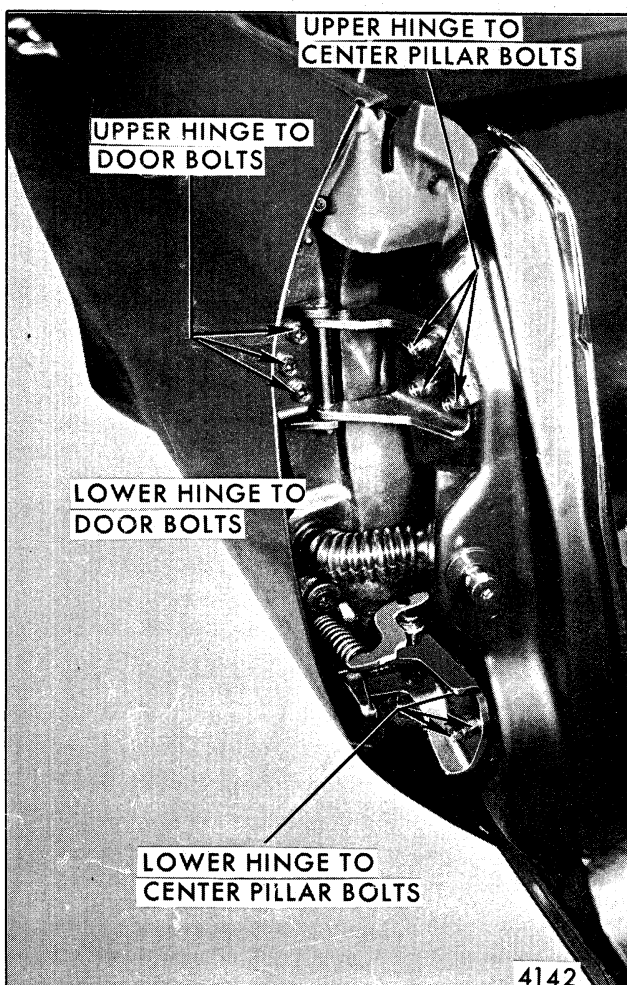

Fig. 5-137-Typical Rear Door Hinge Installation
3. With door properly supported, loosen upper and lower hinge attaching bolts from door or center pillar and remove door from body (Fig. 5-137).